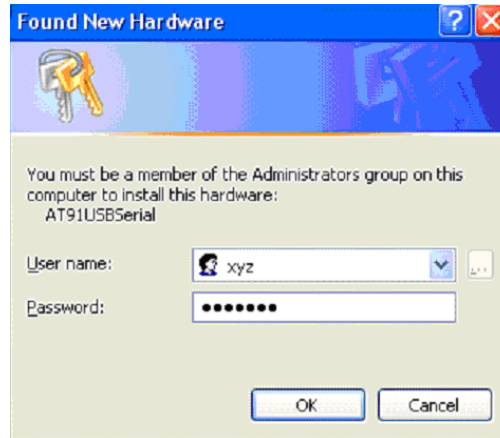

Figure 2: Software Installation
- User should have administrative rights to install software, see figure 2.